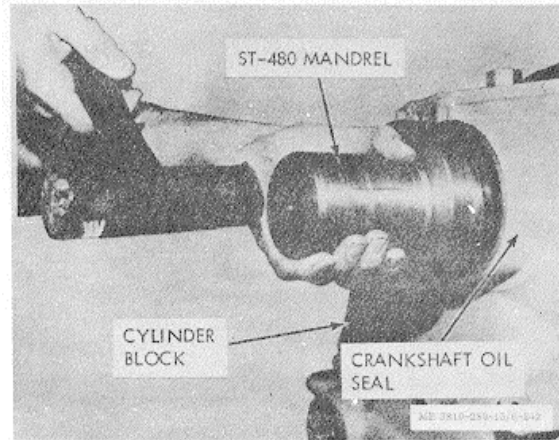

Figure 3-233. Installing crankshaft oil seal with ST-480.
(1) Coat gear cover oil seal bore with clean lubricating oil.
(2) Coat sealing lips and outer diameter of oil seal with clean lubricating oil.
(3) Install oil seal in bore with ST-480 Mandrel and soft hammer (fig. 3-233). Steel spring side of seal must go into bore first. Drive seal into bore until outer edge of seal is at least 0.030 inch inside of bore shoulder.